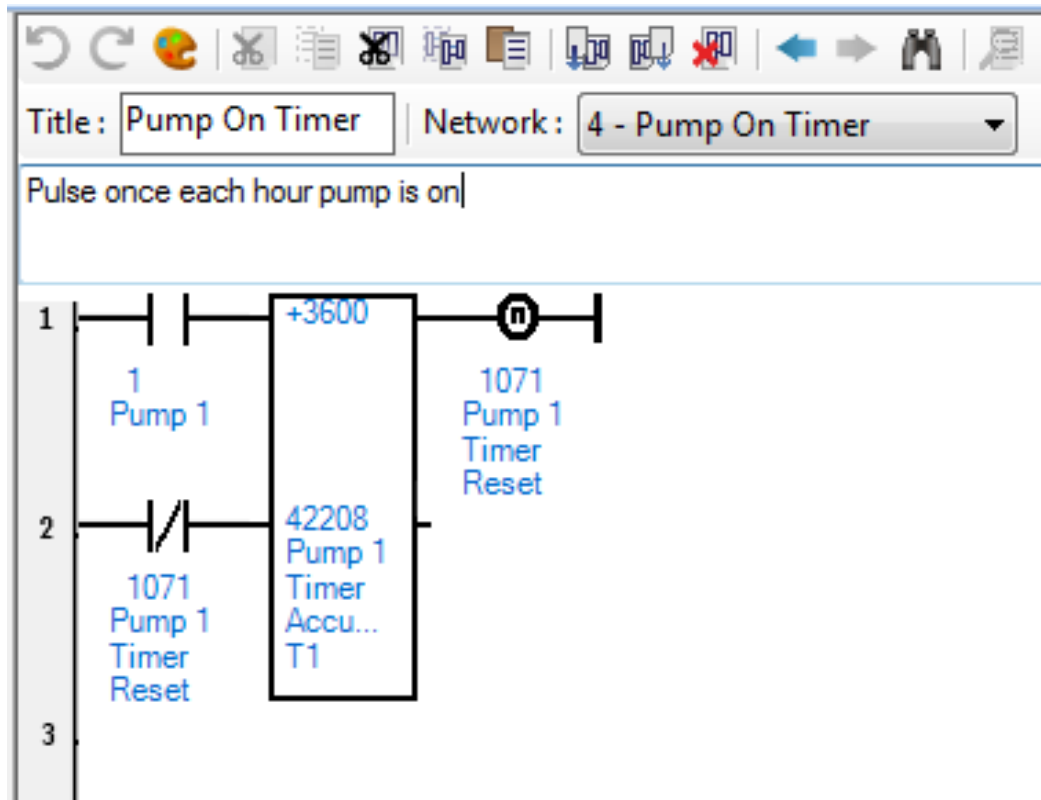

Figure 43: Network Timer
- Complete the network by inserting the elements as shown in Figure 43: .